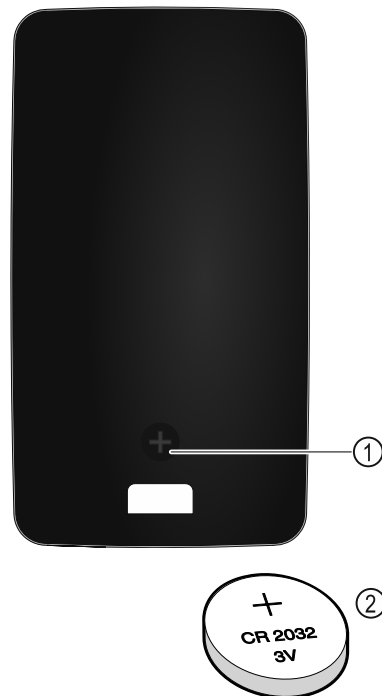

Fig. 255
The remote control is powered by a 3V CR 2032 battery Fig. 255 (2) available from specialist retailers.
- ▶ Undo screw Fig. 255 (1) on the back of the remote control.